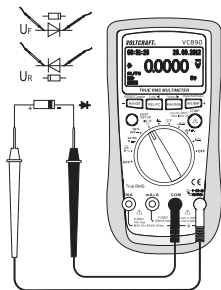

Fig. 6
1. Turn on the DMM and select the measuring range " Ω ". Press the SHIFT/SETUP button (3) until the diode test symbol \rightarrow appears in the display.
2. Insert the red test lead in the " Ω " measuring socket (7), the black test lead in the COM measuring socket (8) (Fig. 6).
5. The display shows the continuity voltage "UF" in Volts (V). If "OL" is indicated, the diode is measured in reverse direction (UR) or the diode is faulty (interruption). Perform a measurement with the poles reversed as a control.